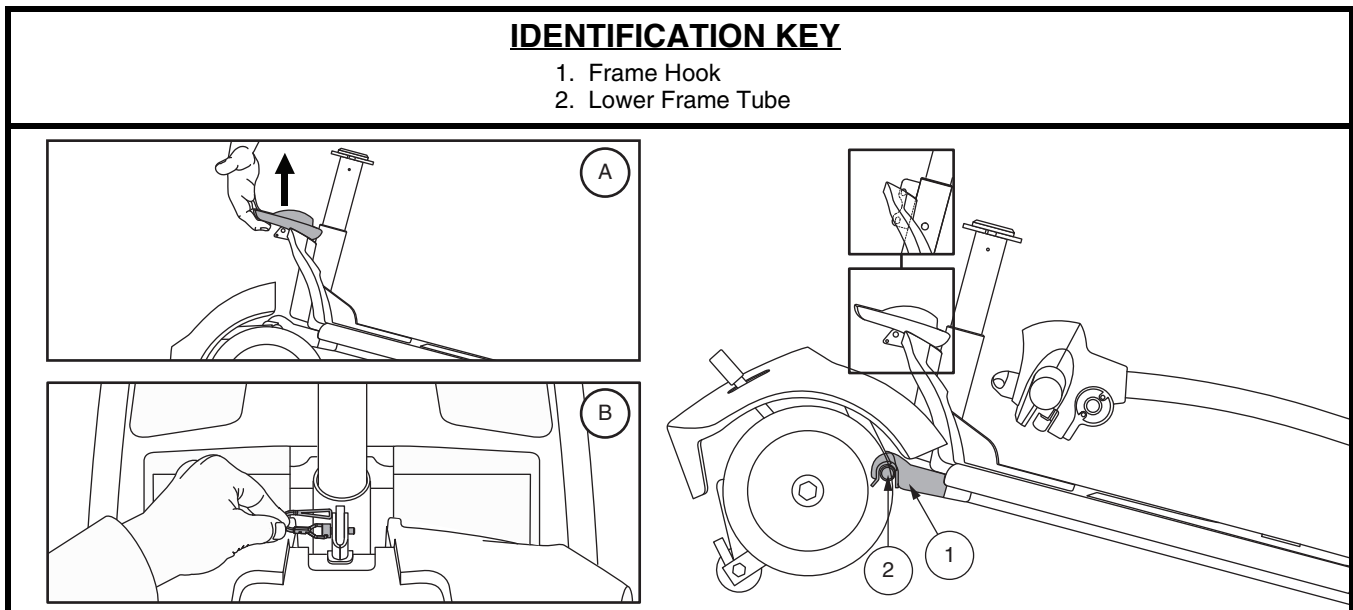

Figure 26. Frame Release Lever (Style A) and Frame Release Lock-up Pin (Style B)
4. Slowly separate the two sections of the Travel Scooter. See **figure 26**.
NOTE: Before attempting assembly, tilt the rear half of the Travel Scooter slightly back on the anti-tip wheels as shown in figure 26.
1. Use the frame release lever (or the seat post for models 36, 83, and 84 only) to lift the front section as you align the frame hooks of the front section with the lower frame tube of the rear section. See **figure 26**.
2. Once the frame hooks are over the lower frame tube, lower the front section and pivot the rear section simultaneously. This will engage the frame lock-up automatically for models 40X, 44X, 40E, 44E, 40LX, 44LX, 50LX, 54LX, 53, 53HD, 54, 54HD, 73, and 74. For models 36, 83, and 84, you will also need to reinstall the frame lockup pin to complete the body assembly. See **figure 26**.